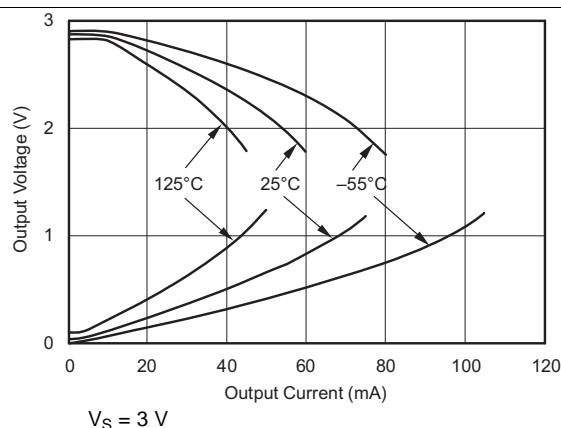
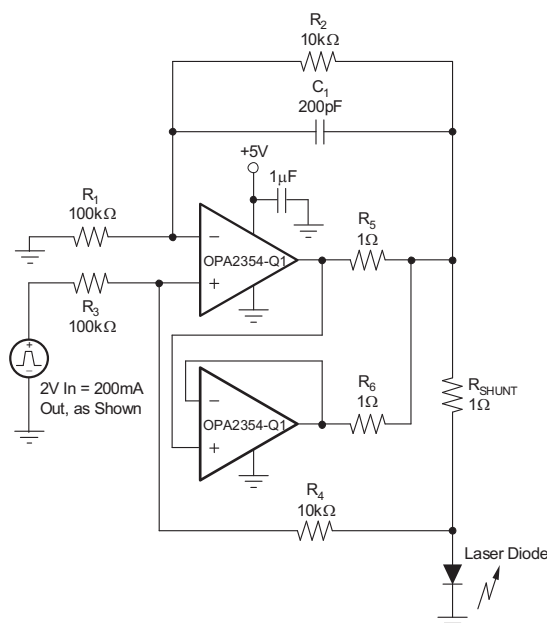

Figure 20. Output Voltage Swing vs Output Current
Figure 31. Parallel Operation
(2) See typical characteristic graph *Output Voltage Swing vs Output Current* (Figure 20).
(3) Not production tested
The device uses a class-AB output stage with common-source transistors to achieve rail-to-rail output. For high-impedance loads ($> 200\ \Omega$), the output voltage swing is typically 100 mV from the supply rails. With 10- Ω loads, one can achieve a useful output swing while maintaining high open-loop gain. See Figure 20, Output Voltage Swing vs Output Current.
For maximum reliability, TI does not recommend running a continuous dc current in excess of $\pm 100\text{ mA}$. See Figure 20, Output Voltage Swing vs Output Current. A solution for supplying continuous output currents greater than $\pm 100\text{ mA}$ is operating OPAx354-Q1 family of devices in parallel, as shown in Figure 31.